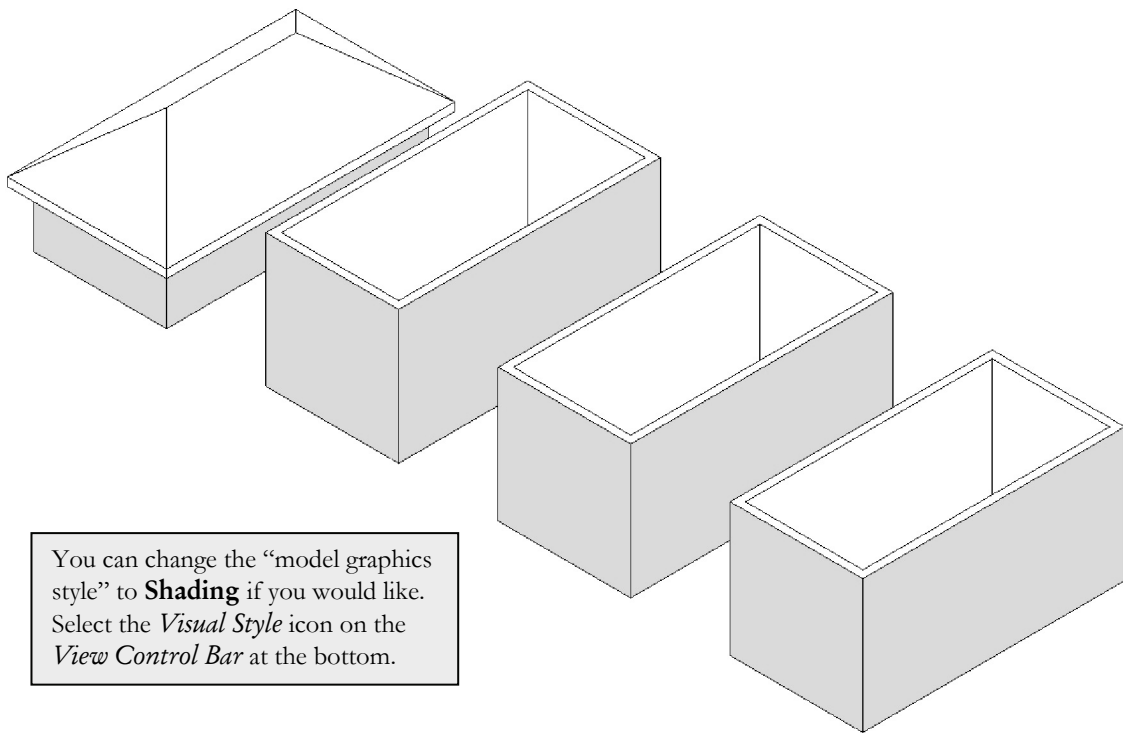

FIGURE 7-1.4 3D view – hip roof
15. Switch to the **3D** view using the icon on the *QAT* (Figure 7-1.4).